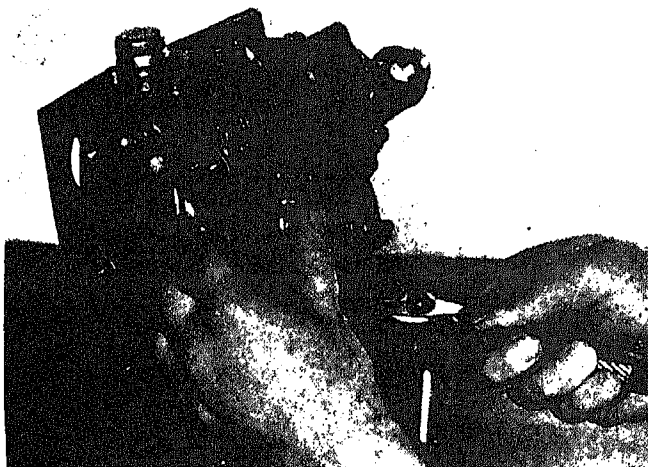

Fig. 510-11 Installing snap ring
4. Install the snap ring and lock in the groove in front of the name plate. Fig. 510-11.